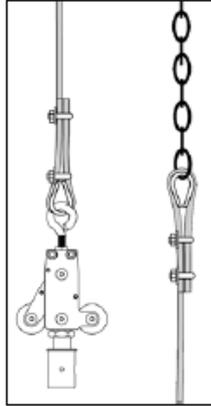

Figure 7
4. Connect suspension cable to top wheel as shown in Figure 7.
5. Connect suspension cable to the chain as shown in Figure 7.